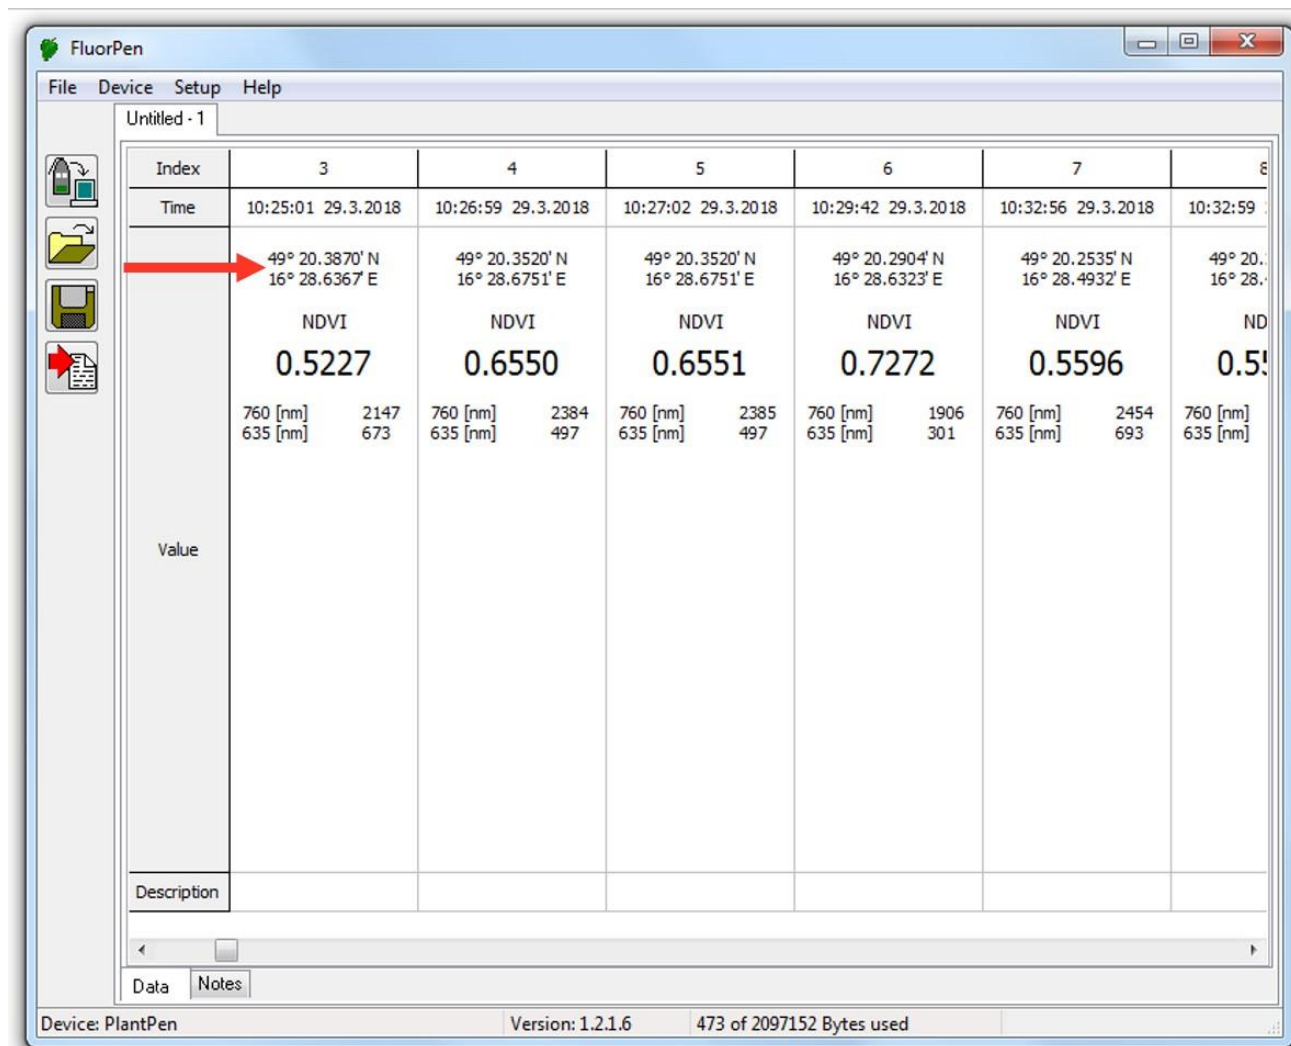

Fig. 22 GPS coordinates.
- Download measured data from the PlantPen to your PC. Data measured with activated GPS module are downloaded with GPS coordinates (Fig. 22).